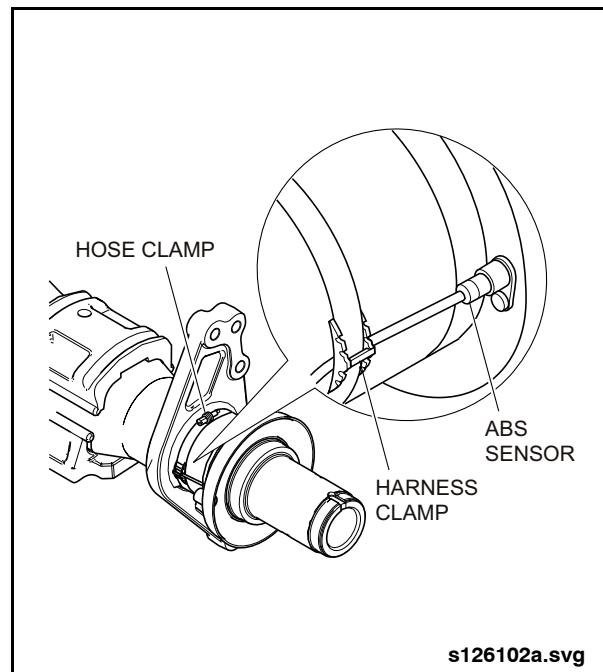

Fig. 2-145: Removing ABS Sensor Harness Clamp
3. Mark the position of the ABS sensor harness hose clamp. See "Fig. 2-145: Removing ABS Sensor Harness Clamp" on page 126.